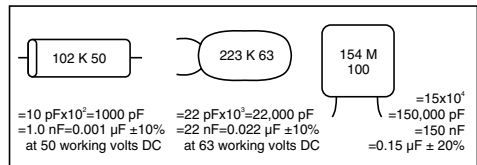

Fig. 41: Plastic film capacitors showing capacitance value, tolerance and working voltage
Some examples of decoding the values of plastic and ceramic disk capacitors are shown in Figs. 41 and 42. A capacitor coded 474K63 means that its value is  $47 \times 10^4$  pF or 470000 pF or 0.47 microfarads. K indicates 10% tolerance. The next digits—(63) signifies its working voltage.